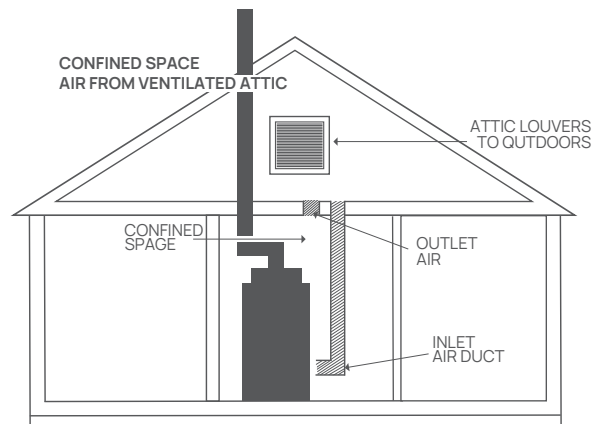

Fig. 22
1. All air from inside the building as in Figure 22: The confined space shall be provided with two permanent openings communicating directly with an additional room(s) of sufficient volume so that the combined volume of all spaces meets the criteria for an unconfined space. The total input of all gas utilization equipment installed in the combined space shall be considered in making this determination. Refer to Table 8 for minimum open areas requirements.